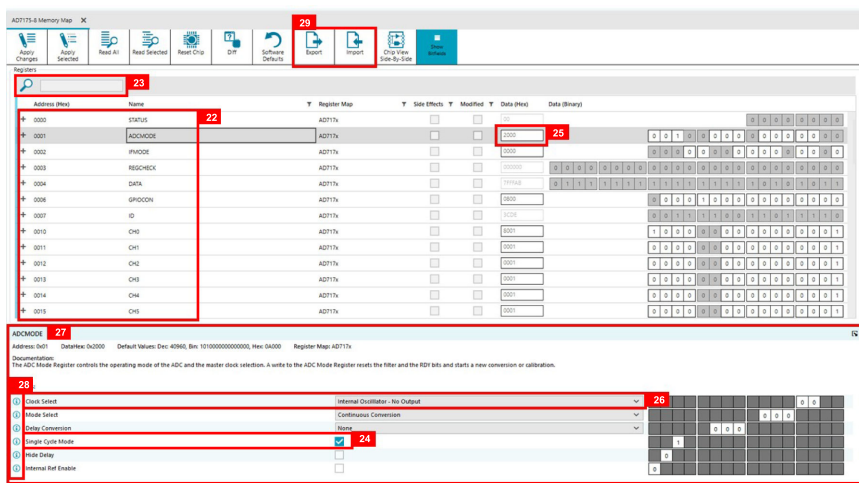

Figure 15. Memory Map
- ▶ Register tree: the register maps nested list (Label 22 in Figure 15) shows the full register map in a tree control. Each register is shown. Click the expand button next to each register to show all the bit fields contained within that register.
- ▶ Register tree search: the register tree search box (Label 23 in Figure 15) allows the user to search the tree for any register or bit field. Enter a value into this field to filter the register tree.
- ▶ Register and bit field control: the register and bit field control section (Label 24 in Figure 15) allows the user to change the individual bit of the register selected in the register tree by
- clicking the bits or by programming the register value directly into the number control field (Label 25 in Figure 15). This control also shows all bit fields for the selected register. Change the values by using a dropdown box (Label 26 in Figure 15) or by selecting or clearing a checkbox (Label 27 in Figure 15).
- ▶ Documentation: the bit field documentation (Label 28 in Figure 15) contains the documentation for the register or the bit field selected. This field can be updated by selecting a register or bit field in the register tree or hovering over the register or bit field in the register tree or register control. This documentation is displayed by clicking the button labeled 28 in Figure 15.
- ▶ Import and export: save and load (Label 29 in Figure 15) allow the user to save the current register map setting to a file and to load the setting from the same file, respectively.